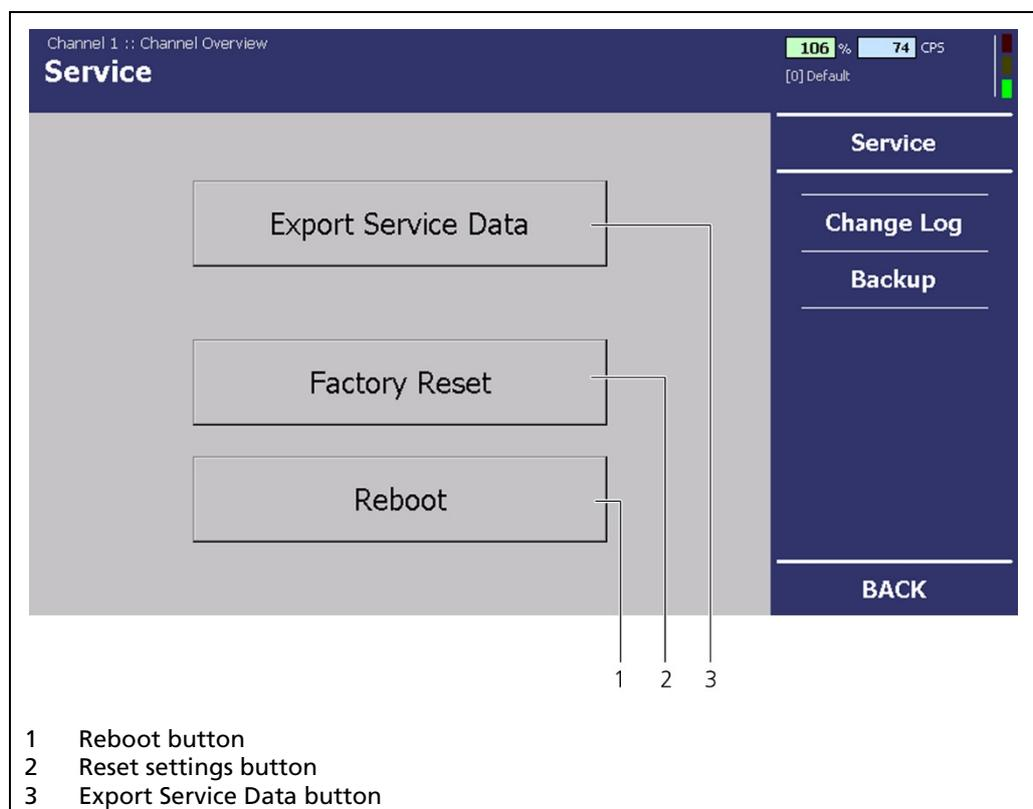

Fig. 75 "Channel Overview" Menu, Service
- ▶ The change log is displayed (Fig. 75, Item 1).